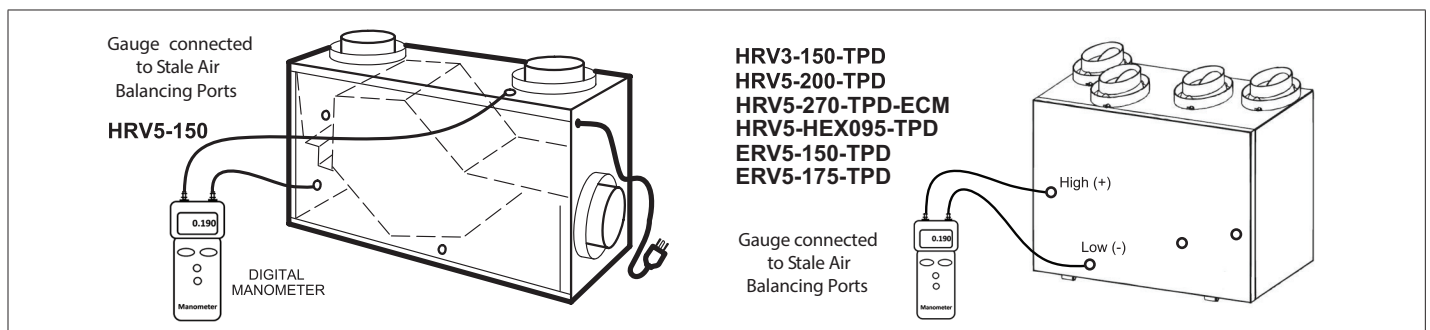

Figure 51. Door Balancing Ports - Stale Air
5. Measure Stale Air Insert the two rubber fittings from the gauge to the STALE AIR Balancing Ports (see Figure 51 on page 40). Seal the FRESH AIR Balancing Ports (upper left and lower right) with tape. Record your reading.